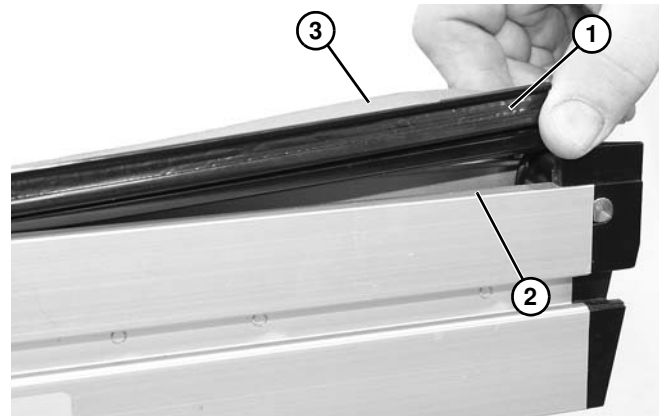

Figure 13
2. Remove the bedstrip (**Figure 13, item 1**) from between the conveyor (**Figure 13, item 2**) and belt (**Figure 13, item 3**).